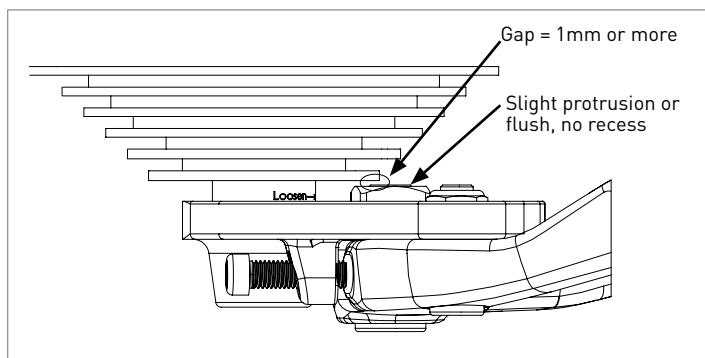
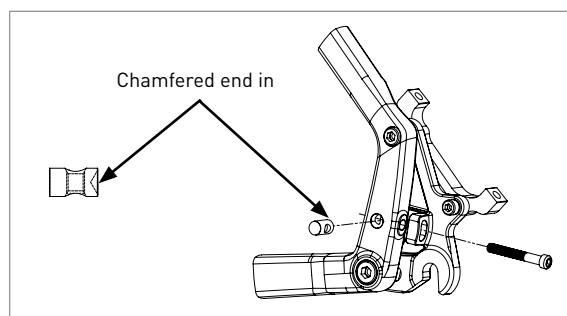

Figure 5
Figure 6
- c. Inspect the tire near the front of the chainstay opening and make sure it is centered. If it is sitting slightly to the left or right, push on the rim from the opposite direction just above the chainstay area to center the wheel/tire/dropout assembly to the frame. While still applying pressure to the rim, tighten both the driveside and non-driveside lower fixing bolts (F) lightly. (Enough to prevent any movement, but not full torque.)
- d. Check for adequate chain tension and/or tire clearance. If the chain is too tight or too loose, loosen both lower fixing bolts (F), and repeat Steps 6b and 6c. Likewise, if clearance between the frame the tire is less than 6mm at any point, the dropout plate must be adjusted further rearward per Steps 6b and 6c until clearance is 6mm or more at all points to the tire. Once proper chain tension and/or tire clearance is achieved, proceed to the next step.
- a. If adjustable-position dropout plates are positioned in the front 1/3 of their adjustment (shortest), check the clearance between the smallest cog of the rear cassette and the end of the driveside lower fixing bolt (F) to ensure there is no contact and at least 1mm of clearance (Fig. 5).
- b. Remove the driveside lower fixing bolt with captured washer (F) and place one of the two provided loose washers (N) onto the bolt. Reinstall the bolt and washer assembly and re-check the clearance as described in the previous step. Up to two washers may be used to shorten the lower fixing bolt to create clearance. The end of the lower fixing bolt should just slightly protrude, or be flush with, the end of the square nut (M), but never recessed (Fig. 5).
8. Using a torque wrench tighten both the right and left side the lower fixing bolts (F) to 10Nm.
10. Using a torque wrench tighten the lower I.S. brake adapter bolt (H) to the manufacturer's specification. If none is given, torque to 8Nm.
11. Ensure the driveside anti-slip screw (J) is still touching the strike plate surface on the back end of the frame. Turn the driveside set screw 1/4 turn to snug it against the frame to keep tension on it. This will prevent it from rattling loose. The driveside anti-slip screw is designed to prevent forward slip of the driveside dropout under higher loads due to hard accelerations.
12. Install the non-driveside anti-slip screw (K):
- a. Insert the asymmetric barrel nut (L) into the left side of the frame, with the marked "chamfered" end first. (Flat side facing outboard) Take care to keep the threaded hole in line with anti-slip bolt hole in the frame (Fig. 6).
- b. Insert the non-driveside anti-slip screw (K) through the slot on the back side of the non-driveside plate, through the hole in the frame, and engage the threads of the barrel nut (Fig. 6).